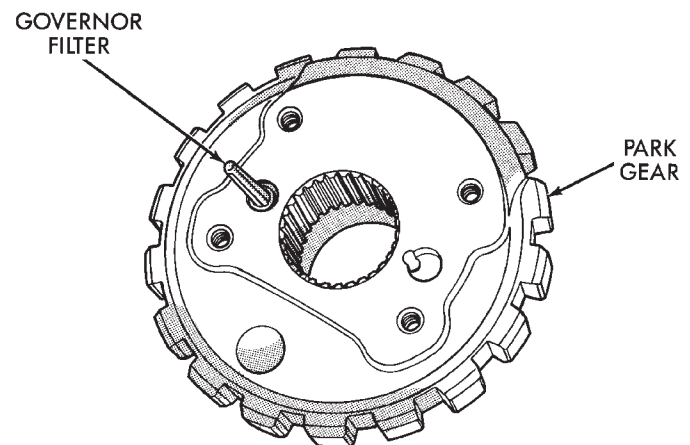

Fig. 35 Governor Filter
- (1) Remove governor body from transmission.
- (2) Clean and inspect governor filter (Fig. 35).